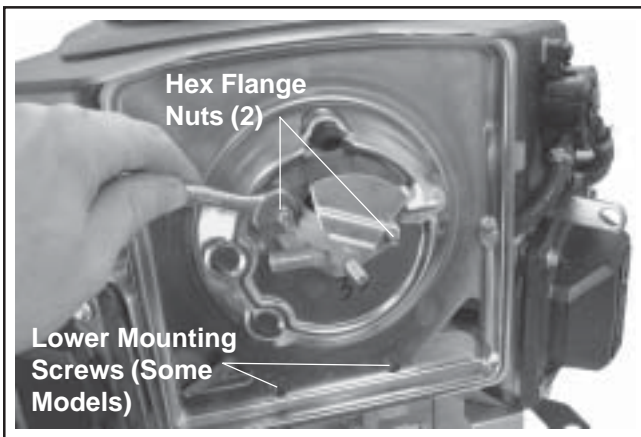

Figure 9-7. Removing Standard Air Cleaner Base.
4. Remove the two hex flange nuts securing the spitback cup, baffle or bracket, and air cleaner base. See Figure 9-7. Two additional lower screws must be removed if the engine contains a lower air cleaner support bracket.